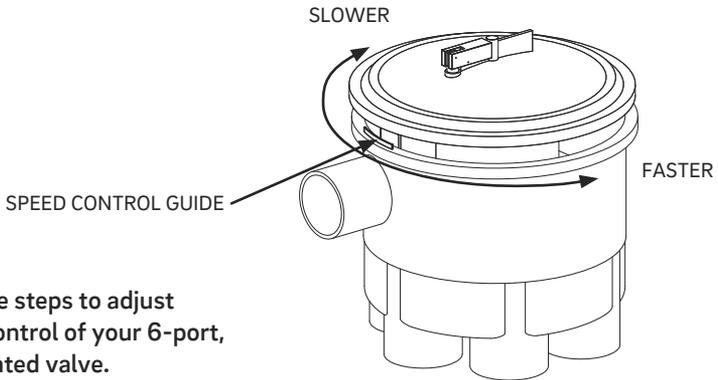

FIGURE 4
4. Rotate the lid counter-clockwise to increase the cycle time. Rotating the lid clockwise decreases cycle time. (See Figure 4)